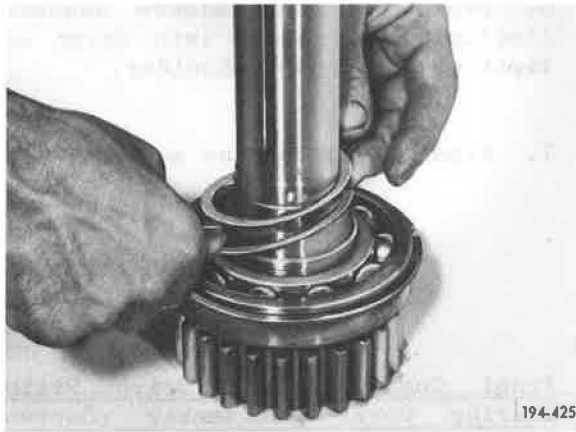

Figure 307. Installing Snap Ring
2. Install bearing retaining spirollox snap ring. See Figure 307.